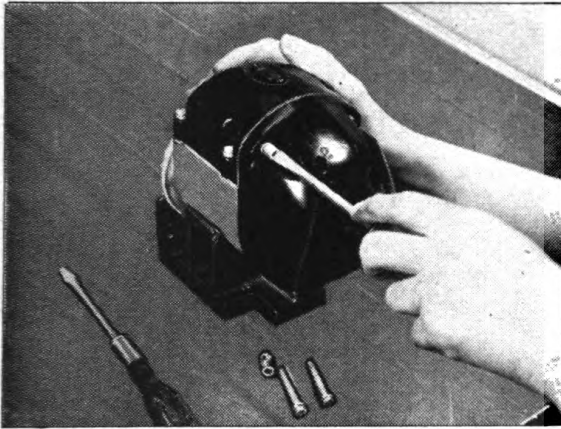

Fig. 41. Removing Slotted Nuts Preparatory to Taking Off Cap
1. Remove the two screws and the two special nuts holding the distributor cap. Fig. 41.